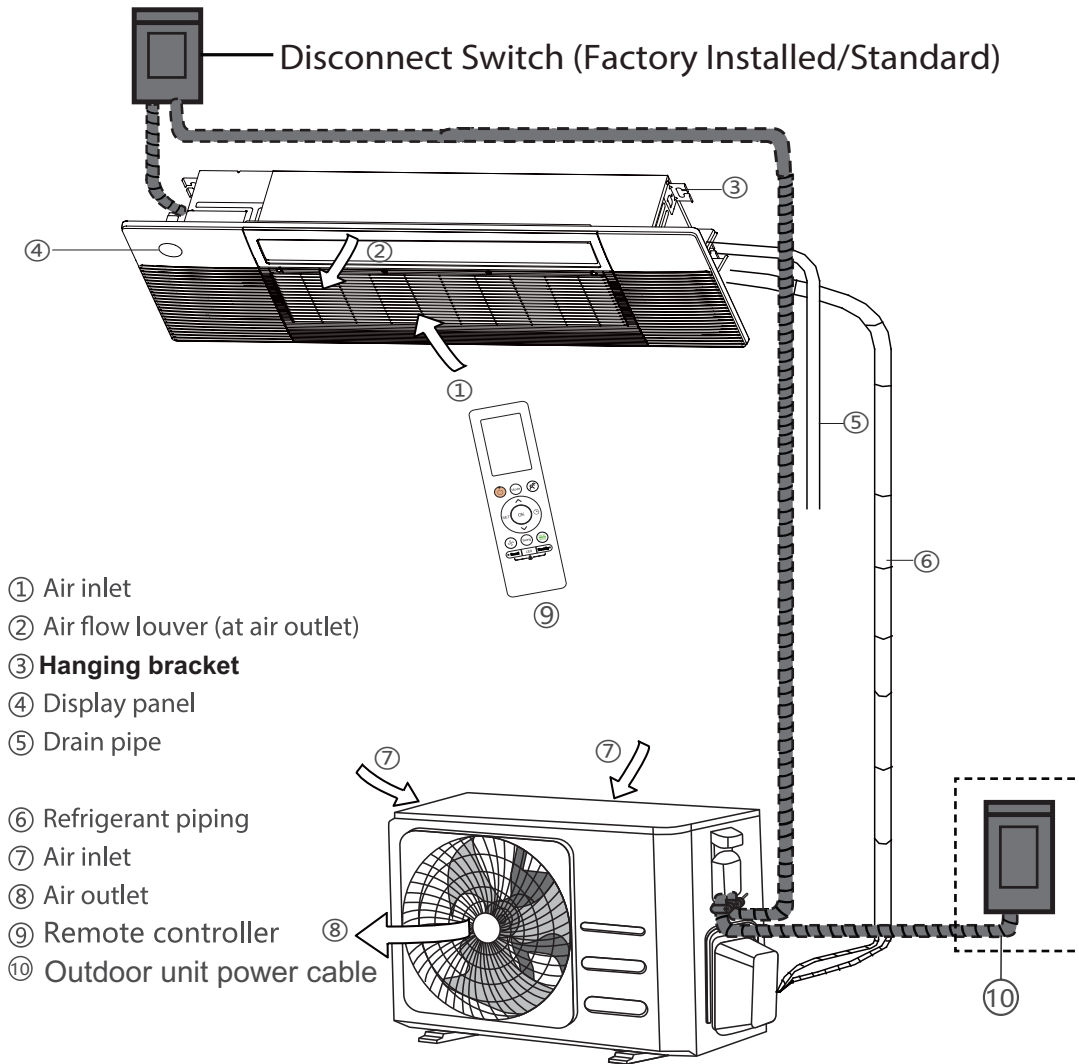

Fig. 2 — System Components
- Figure 2 is a sketch. Different models may differ slightly.